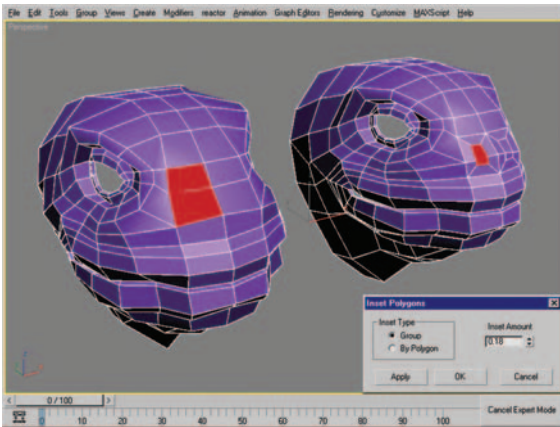

Figure 9.35 Polygon selection and resulting polygons after performing Inset.
36. Select the two polygons seen in Figure 9.35 (left) and, using the Inset settings dialog box, inset them so they appear as they do in Figure 9.35 (right).